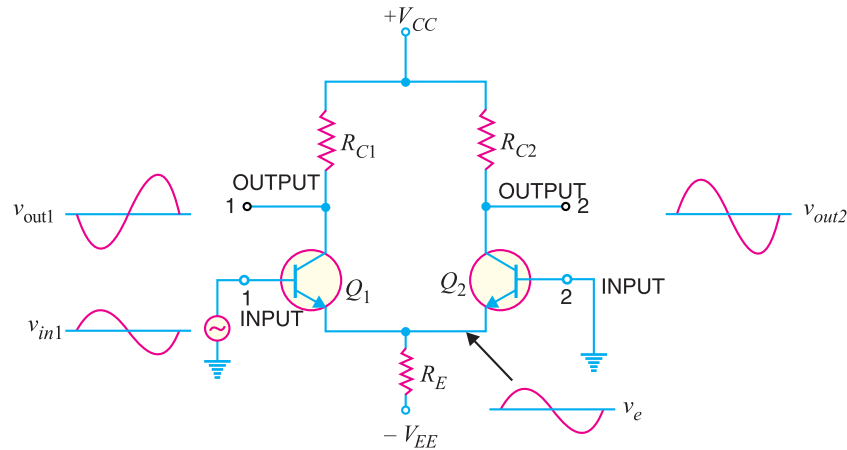

Fig. 25.5
(i) Suppose the signal is applied to input 1 (i.e., base of transistor Q_1) and input 2 (i.e., base of transistor Q_2) is grounded as shown in Fig. 25.5. The transistor Q_1 will act in two ways : as a common emitter amplifier and as a common collector amplifier. As a common emitter amplifier, the input signal to Q_1 (input 1) will appear at output 1 (i.e., collector of Q_1) as amplified inverted signal as shown in Fig. 25.5. As a common collector amplifier, the signal appears on the emitter of Q_1 in phase with the input and only slightly smaller. Since the emitters of Q_1 and Q_2 are common, the
emitter signal becomes input to Q_2 . Therefore, Q_2 functions as a *common base amplifier. As a result, the signal on the emitter of Q_2 will be amplified and appears on output 2 (i.e., collector of Q_2) in phase with the emitter signal and hence in phase with the input signal (signal at input 1). This is illustrated in Fig. 25.5.
- (a) When signal is applied to input 1 (i.e., base of transistor Q_1 in Fig. 25.5), an inverted, amplified signal appears at output 1 and non-inverted, amplified signal appears at output 2. Reverse happens when signal is applied to input 2 and input 1 is grounded.